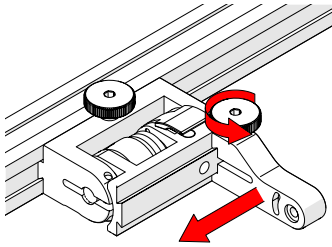

Fig. 107 - Position swing arm
5. Loosen the swing arm knob and slide the swing arm to the opposite end of the probe holder bracket (*Fig. 107*) or the preferred position. Tighten the swing arm knob.